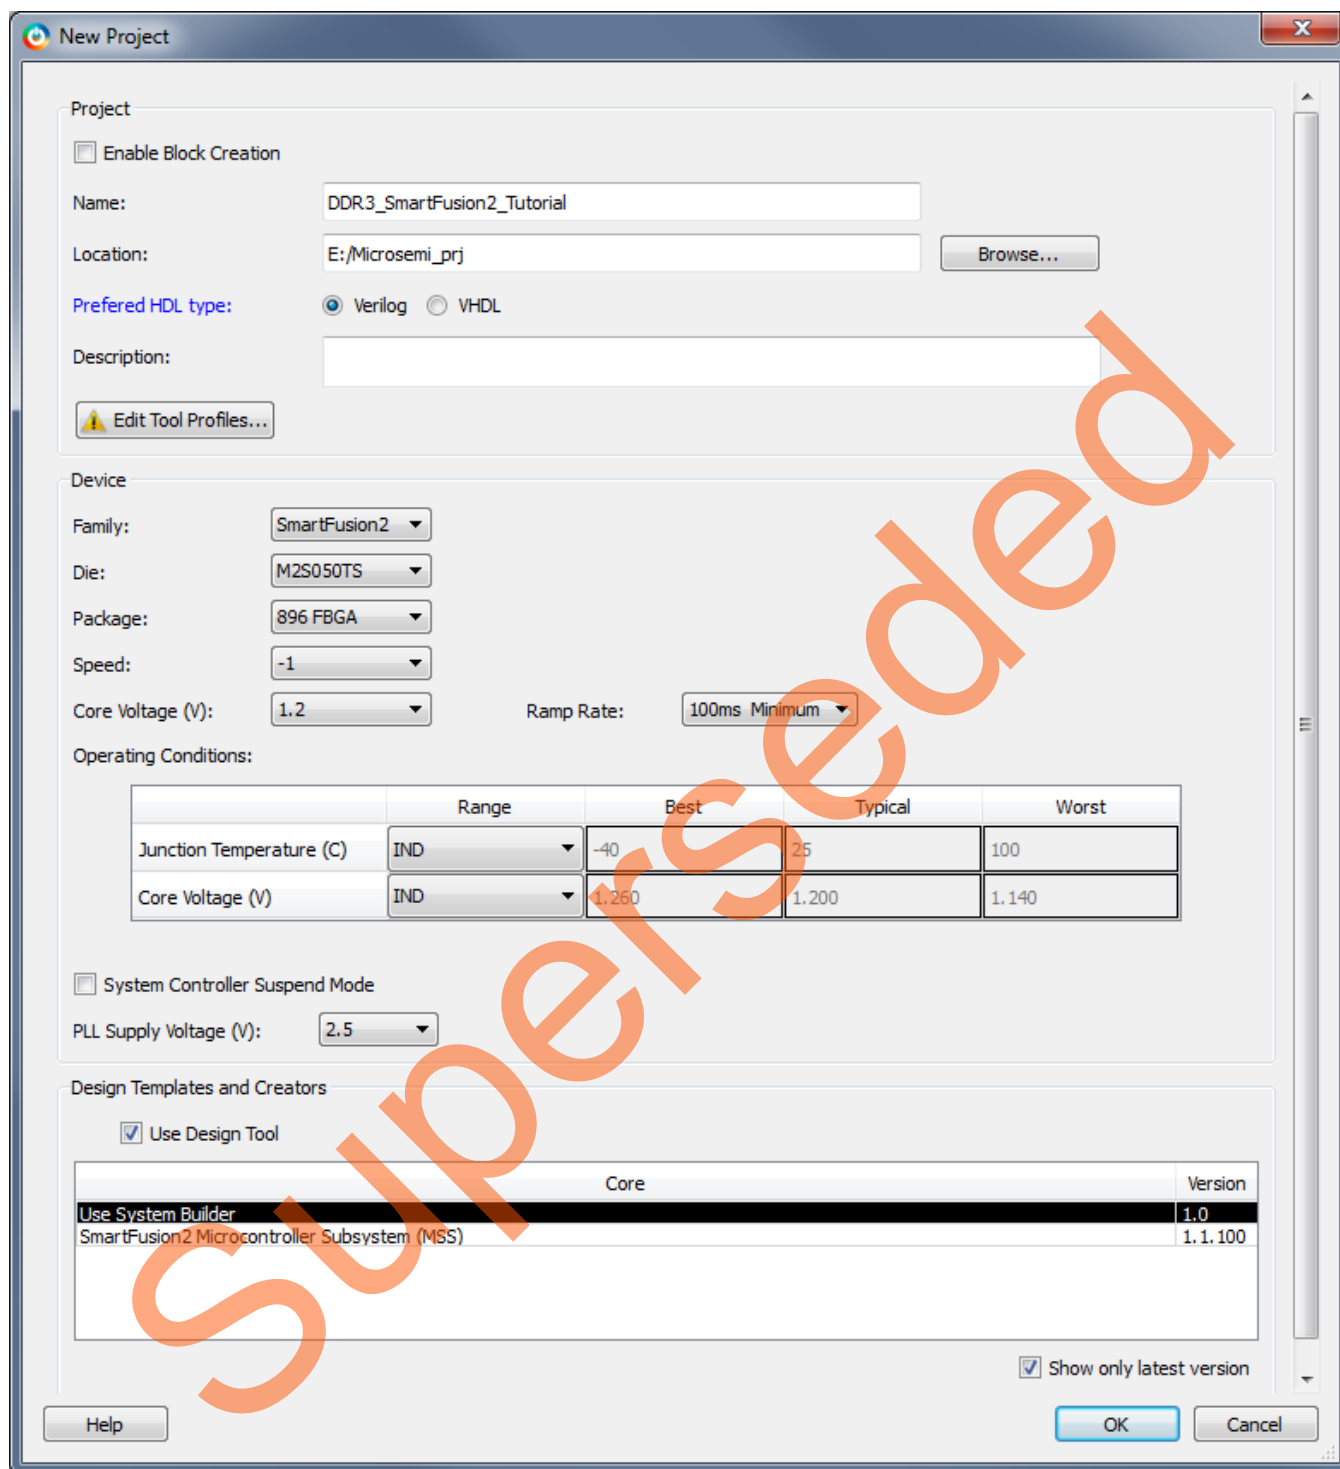
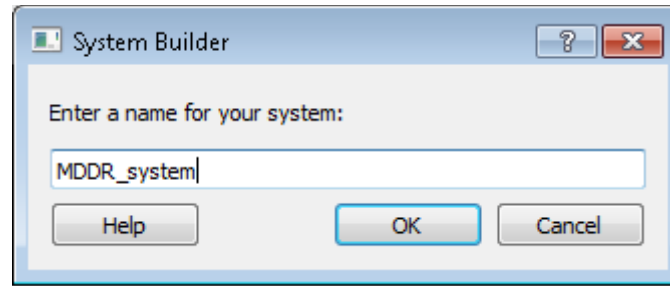

Figure 2. New Project Dialog Box
Figure 3. Create New System Builder Dialog Box
2. From the **Project** menu, select **New Project**. Enter the information as displayed in Figure 2.
- Since you selected **Use System Builder**, as shown in Figure 2, the **System Builder** window opens, to enter a name for your system, as shown in Figure 3.